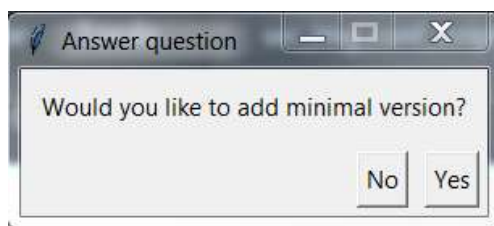
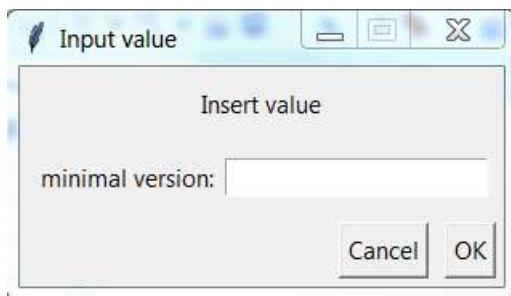

Figure 62: adding minimal version of software version
Figure 63: inserting minimal value of software
11. In this step the user can add minimal SW version on the platform (this is optional) as shown in Figure 62. This will be done after image validation on the platform. If the user doesn't write any version in the window show in Figure 63, then SW version of the used image will be used as new minimal SW version.